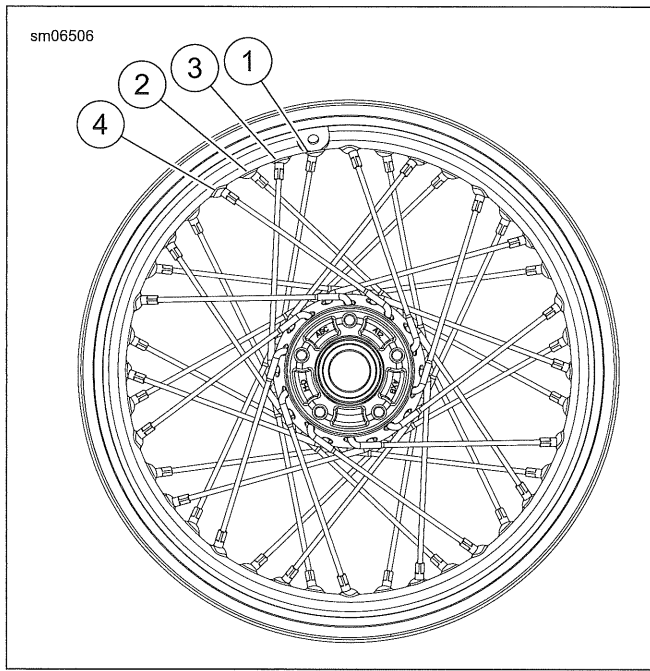

Figure 3-12. Side Valve Rim
- a. **Rim with side valve hole:** See Figure 3-12. Start at the valve stem hole (1).